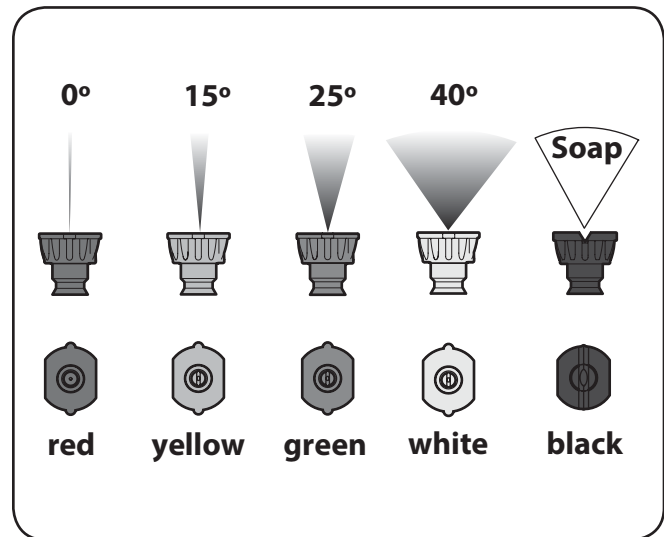

Figure 5-4
The quick-connect on the nozzle extension allows you to switch between five (5) different quick-connect spray nozzles. Spray nozzles can be changed while the pressure washer is running once the spray gun trigger lock has been engaged. The spray nozzles vary the spray pattern as shown. Refer to Figure 5-4.